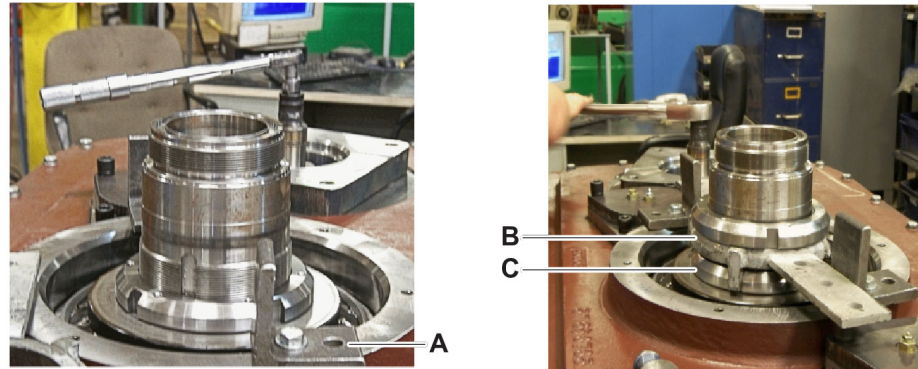

Figure 3
4. Install two angles (Figure 3, item A) 180 degrees apart on the rotary head housing with two cap screws and flat washers. Tighten the two cap screws after alignment to the wings on the adjustment locking ring tool (item B).